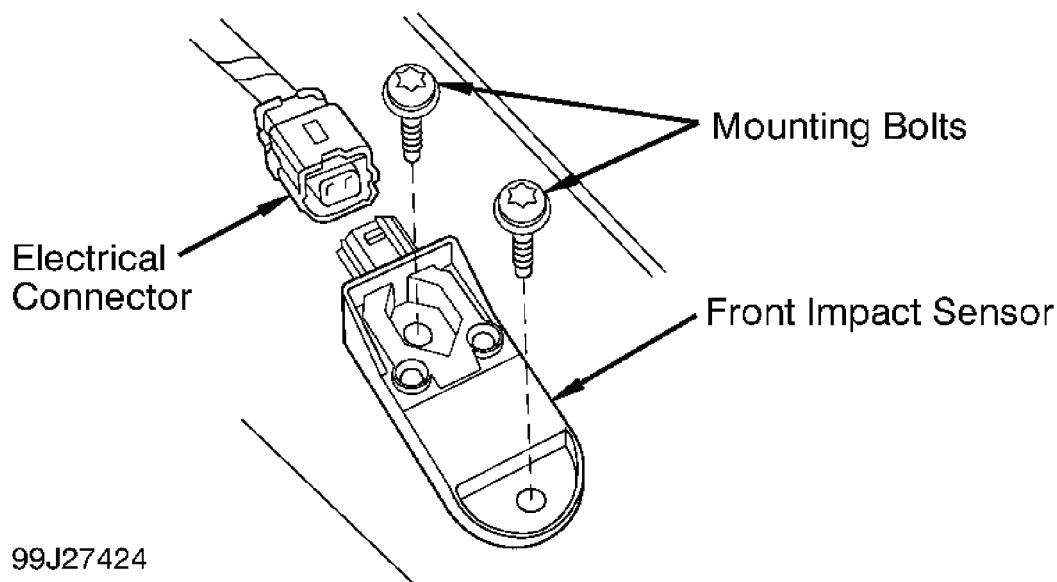

Fig. 15: Identifying Front Impact Sensor
2. Remove battery. Disconnect evaporative emission canister hose. Disconnect front impact sensor 2-pin electrical connector. See **Fig. 15** . Using T30 Torx bit, remove and discard front impact sensor mounting bolts. Remove front impact sensor.